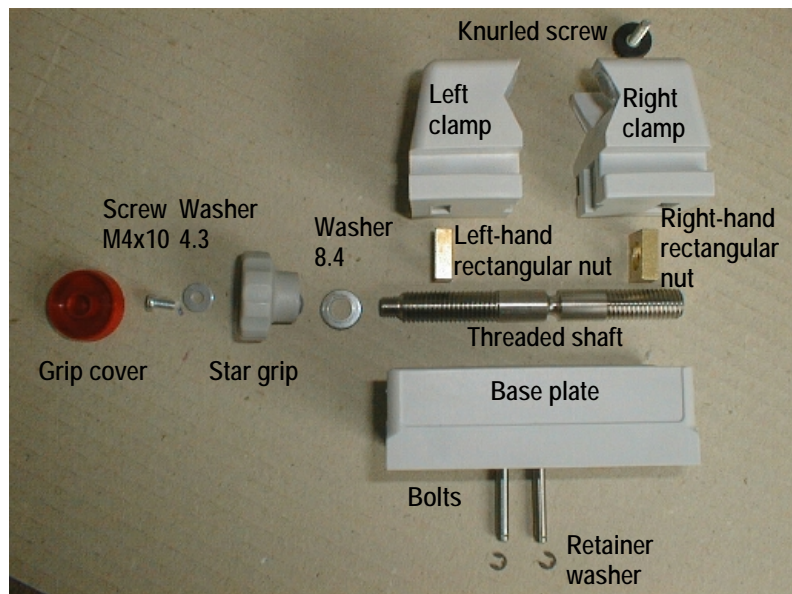

Fig. 16 Device fixing assembly disjointed completely
- a) Prepare all the parts as shown in Fig. 16. Ensure that the base plate with the depression for the rating plate is facing upwards. Arrange the two clamps so that they can be suspended in a medical rail system. The lug needs to be on top of the clamp for this purpose.